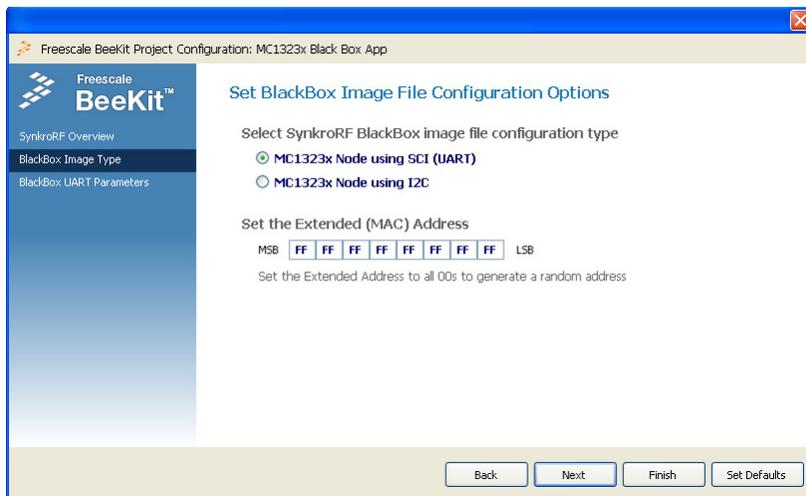

Figure 6-3. SynkroRF Black Box image type window
8. Click on the Next button. The SynkroRF BlackBox Image Type window appears as show in Figure 6-3.